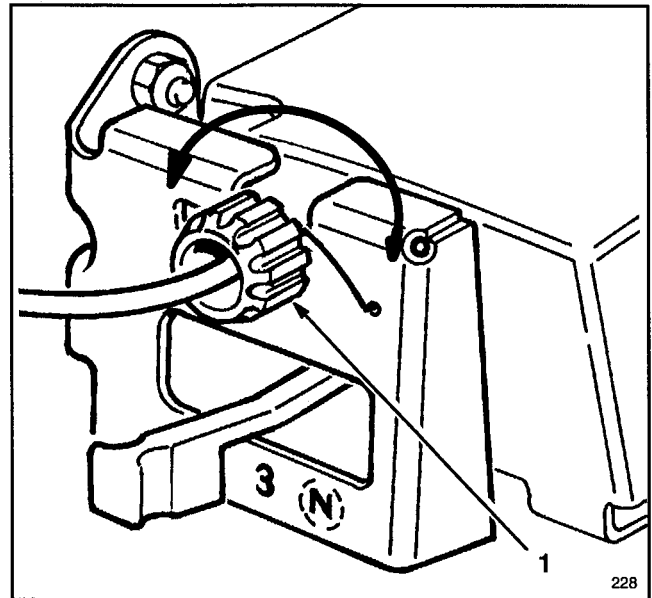

Figure 23
2. ADJUSTMENT (Fig. 23)—Rotate control knob clockwise  $1/2$  turn if mower does not self-propel. If mower creeps forward, rotate knob  $1/2$  turn counterclockwise to loosen belt.